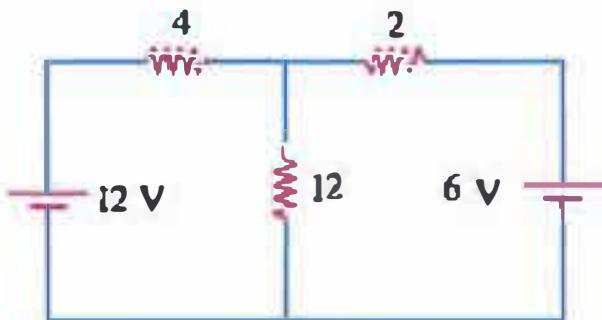

Fig. 4.26
3. Make use of Thevenin's theorem to find current in the  $12\text{ }\Omega$  resistor of Fig. 4.26. [0.6 A]
6. What is the Norton equivalent for the circuit shown in Fig. 4.26? Use it to find current flowing through  $12\text{ }\Omega$  resistor. [ $I_N = 6\text{ mA}, R_N = 4/3\text{ }\Omega; 0.6\text{ A}$ ]